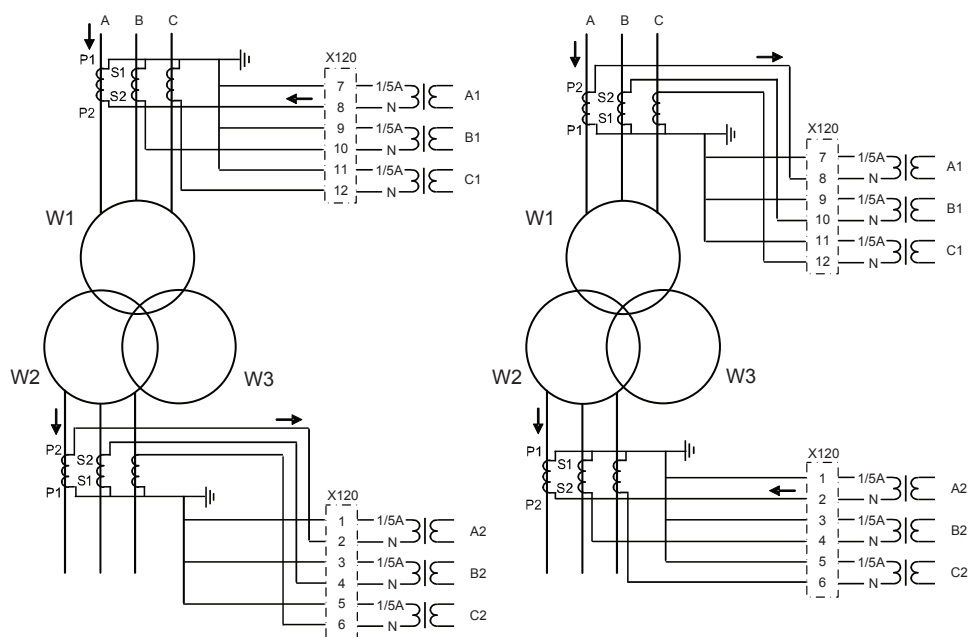

Figure 202: Connection of current transformers of Type 1 and example of currents during external fault
- If the positive directions of the winding 1 and winding 2 relay currents are opposite, the setting parameter *CT connection 1-2* is "Type 1", as shown in Figure 202